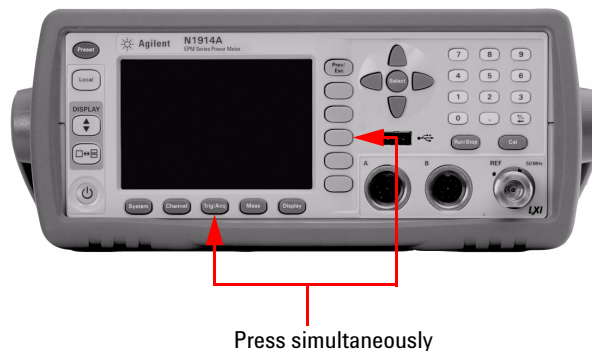

Figure 2-52 Activate memory erase using combo keys
- 1 Simultaneously press the fourth softkey from the top and the  key immediately upon power-on (see Figure 2-52).